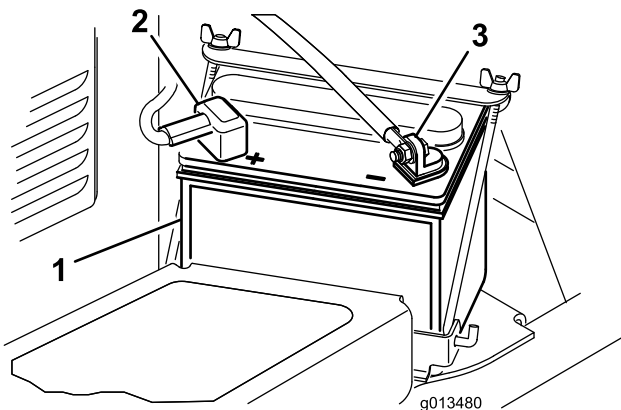

Figure 3
1. Set the battery in place, with the negative terminal positioned to the outside of the machine (Figure 3).
2. Secure the positive cable (red) to the positive (+) terminal with a 5/16 x 5/8 inch bolt and locknut (Figure 3).
3. Secure the small black wire and the negative cable (black) to the negative (-) terminal of the battery with a bolt (5/16 x 5/8 inch) and locknut (5/16 inch) (Figure 3).